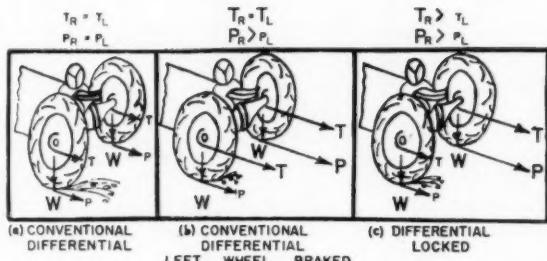

Fig. 1 Traction effort and torque diagrams. (Assumed conditions: All  $W$  values are equal;  $k_R$  is greater than  $k_L$  in all cases)
Conventional automotive differentials divide torque equally between the two drive wheels if the slight internal friction is neglected (2). Therefore, the vehicle driving ability is twice that of the wheel with the lesser tractive effort, as shown in Fig. 1(a), where  $T$  equals torque and  $P$  equals pull. A low coefficient of friction,  $k$ , under one wheel causes excessive wheel spinning, or total immobility, as on ice. Weight distribution may be just as significant as the traction coefficient in affecting tractive effort of trucks and tractors.  $W$  represents weight in Fig. 1.
Wheel braking can benefit tractive effort by increasing the torque required to drive the wheel with the poorer traction. The torque to each axle shaft is equal, as is the case with the conventional differential without braking. The tractive effort for the better side is greater than the tractive effort on the poorer traction side, as shown in Fig. 1(b). This is true because part of the input torque on the side
A differential lock is another means for preventing immobility when one wheel loses traction, of minimizing excessive spinning of the wheel with poorer traction, and for reducing tire wear. The torque is higher on the side of better traction when a lock is engaged. Tractive effort is improved by taking full advantage of the traction on the better side, as shown in Fig. 1(c), instead of being limited to twice the traction on the poorer side. This net gain is the same as for braking with a conventional differential, but the wheels must turn or spin at the same speed. Differential locks may or may not require operator control.